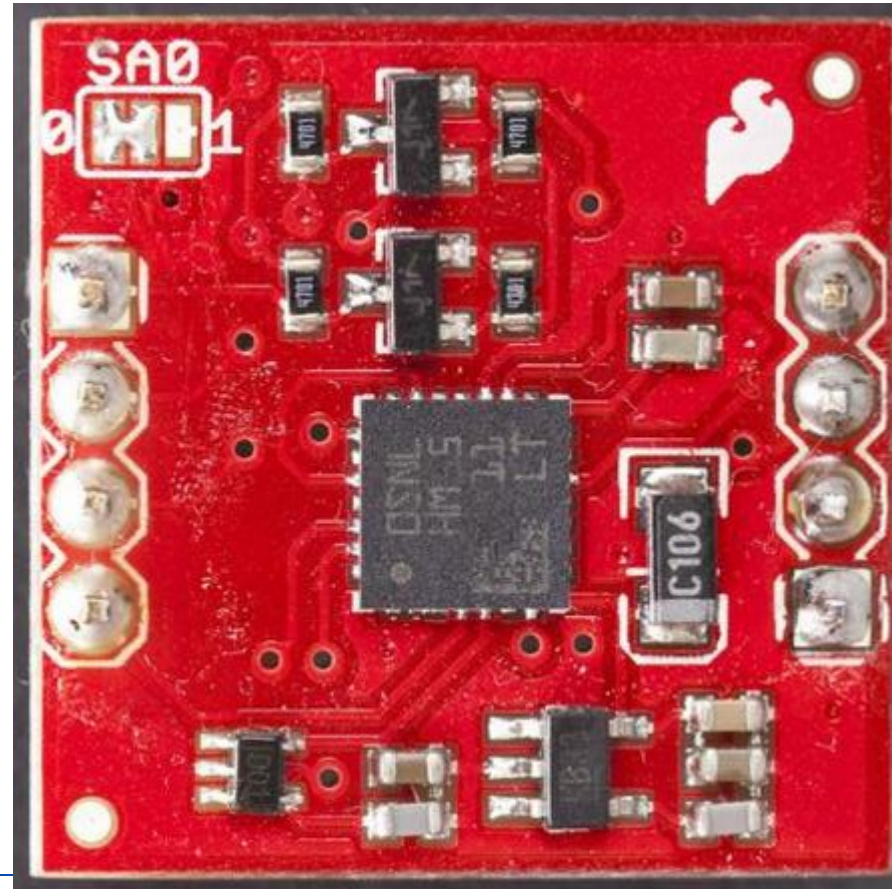

Figure 10-6. SparkFun's LSM303 compass-accelerometer
- The LSM303 compass-accelerometer (Figure 10-6) gives you the direction of magnetic north. With the accelerometer, it can correct this reading for its orientation.